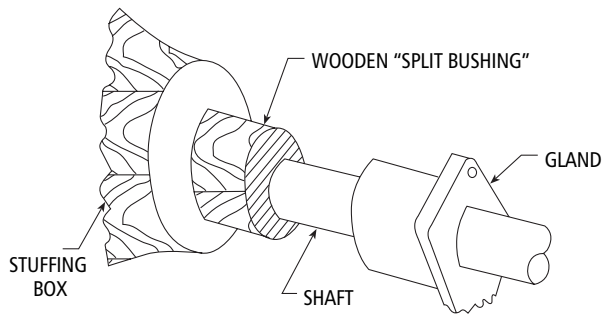

Figure 9
4. Install the packing rings and lantern ring in the following sequence to pack the packed box. Install two rings of packing, then the lantern ring, followed by the final three rings of packing. Install each ring separately and firmly seat. The use of a wooden split bushing is recommended to accomplish this. See Figure 9. Use gland to jack the bushing and ring into the box. Stagger joints in each ring 90°. Make sure the flush tap in the packed box lines up with the center of the lantern ring. Any extra rings are spares.